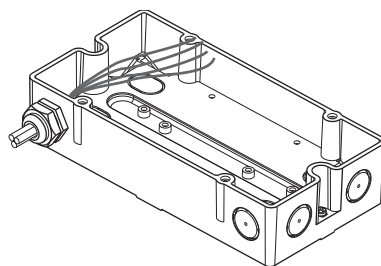

Fig. 4.6.4
4. Insert the cables and fix the cables in the housing (Fig. 4.6.4).